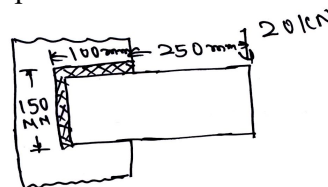

Fig.Q8(b)
b. A 16 mm thick plate is welded to a vertical support by two fillet welds shown in Fig.Q8(b). Determine the size of weld, if the permissible shear stress for the weld material is 75 MPa.